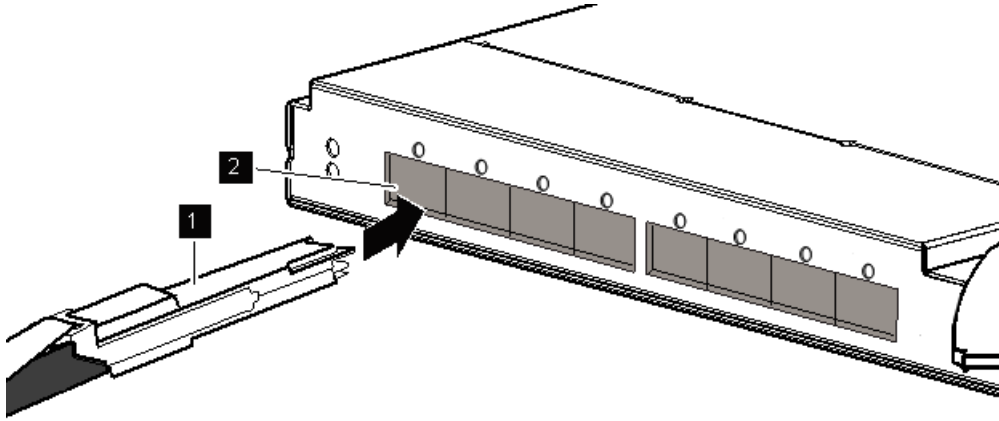

Figure 8 Install InfiniBand Cable in an HP BLc QLogic 4X QDR InfiniBand Managed Switch Port
1. Align the InfiniBand cable QSFP connector (see callout 1 in Figure 8) with the HP BLc QLogic 4X QDR InfiniBand Managed Switch port (see callout 2 in Figure 8).